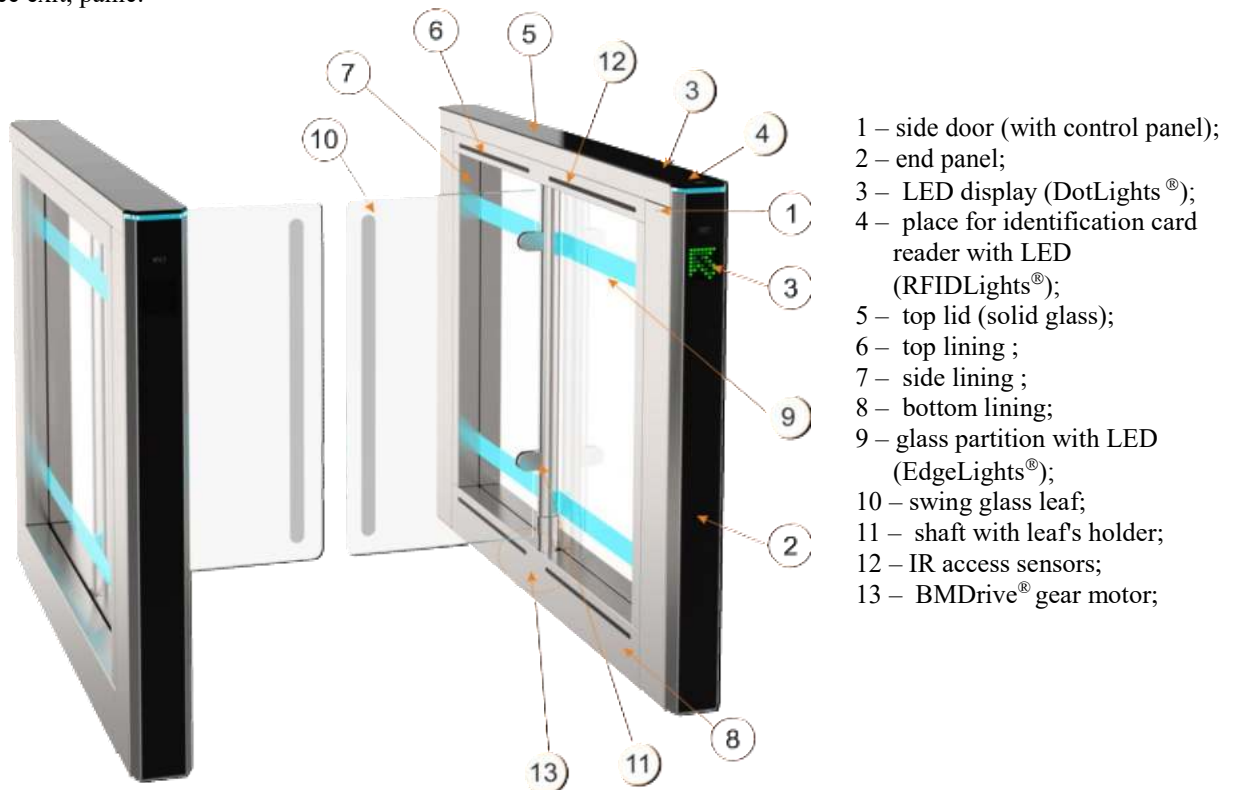

Fig. 4 – Design of the single "Sweeper-S-BM-1" type turnstile T3.KCD.XD
The single turnstile "Sweeper-S-BM-1" (See Fig. 4) consists of two one-leaf cabinets (Master and Slave).
The turnstile is one or more auxiliary cabinets "SWEEPER-S-BM-2" (Master/Slave) with two swing glass leafs (See Fig. 4). The number of auxiliary cabinets to be specified in the order. The turnstile "SWEEPER-S-BM-2" is used within group of the turnstile "SWEEPER-S-BM-1".
1.4.1 Turnstile design (Fig.4)